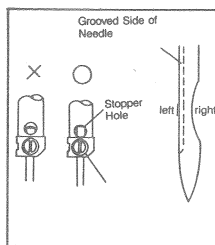

Fig. 12
- 3) Inserting the Needle in the Correct Way Hold the Needle with its grooved side facing exactly to the left, as observed from you. Then, insert the Needle until its upper end sticks to the upper side of the Stopper Hole, so that it can go no further. Finally, tighten the setscrew to secure the needle. See Fig. 12.